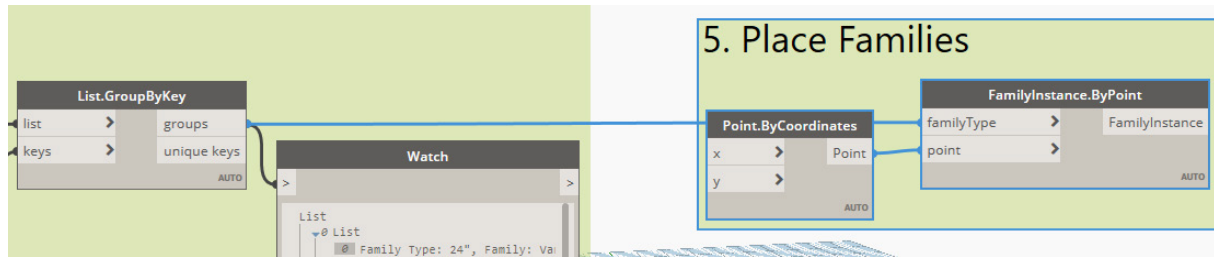

FIGURE 48
14. Wire the **groups** output (from the **List.GroupByKey** node) into the **familyType** input of **FamilyInstance.ByPoint** node (see Figure 48).